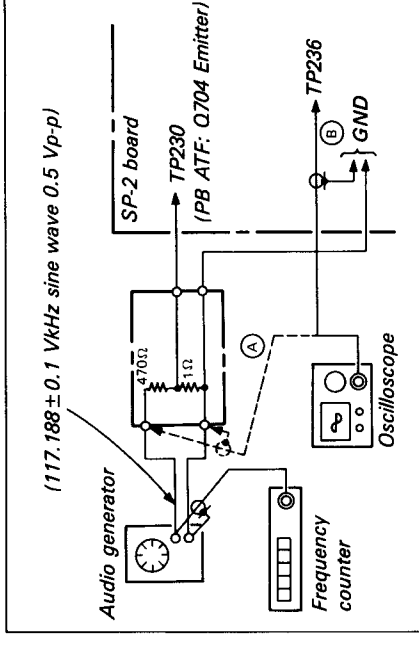

Fig. 8-7.
| Signal | See Fig. 8-7 |
- 1) Check the output level of the audio generator with an oscilloscope and adjust so that the sine wave output level becomes 0.5 Vp-p . (Fig. 8-7 ①)